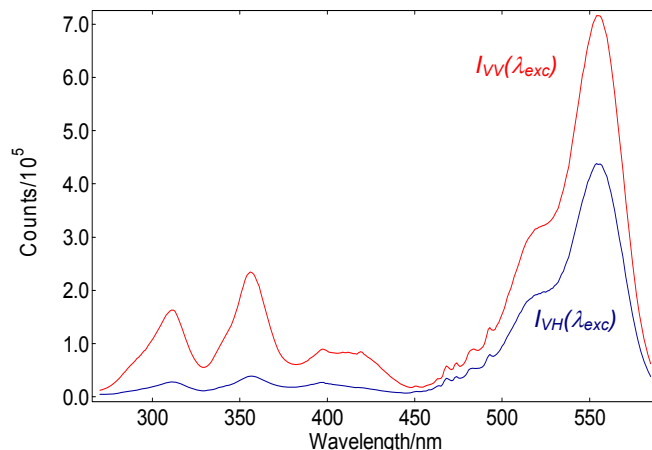

Figure 4-10: Raw polarised fluorescence excitation scans of rhodamin B in glycerol:
4. The Anisotropy tap contains options for the G-factor corrections. Typically the G-factor correction is checked and **Measure at peak** is selected. With this option the two scans  $I_{VV}$  and  $I_{VH}$  will be measured. At the end of the two scans the software will move the excitation monochromator to the peak of the  $I_{VV}$  scan and will then set the excitation polariser to the horizontal position to measure  $I_{HH}$  and  $I_{HV}$  at this peak wavelength. Alternatively, if the G-factor is known the **Use value** can be selected and the known G-factor can be manually entered. A typical example for the set of polarised fluorescence excitation scans is given in Figure 4-10. Note that these curves are spectrally uncorrected. For the calculation of the fluorescence anisotropy functions correction of the individual polarised curves is not required. However, it is important to note that a possible detector background should be automatically subtracted, as a significant background would impact on the resulting anisotropy function.
5. At the end of the scans the G-factor will automatically be measured (if the option was selected - see above) and finally the excitation anisotropy scan will be generated in a separate data window. The G-factor can be viewed in file properties of this measurement result (**right mouse click >> Properties**). Typical raw polarised measurements are shown in Figure 4-10 overleaf. A typical anisotropy scan and the corresponding scan properties are shown in Figure 3-10 on page 35.